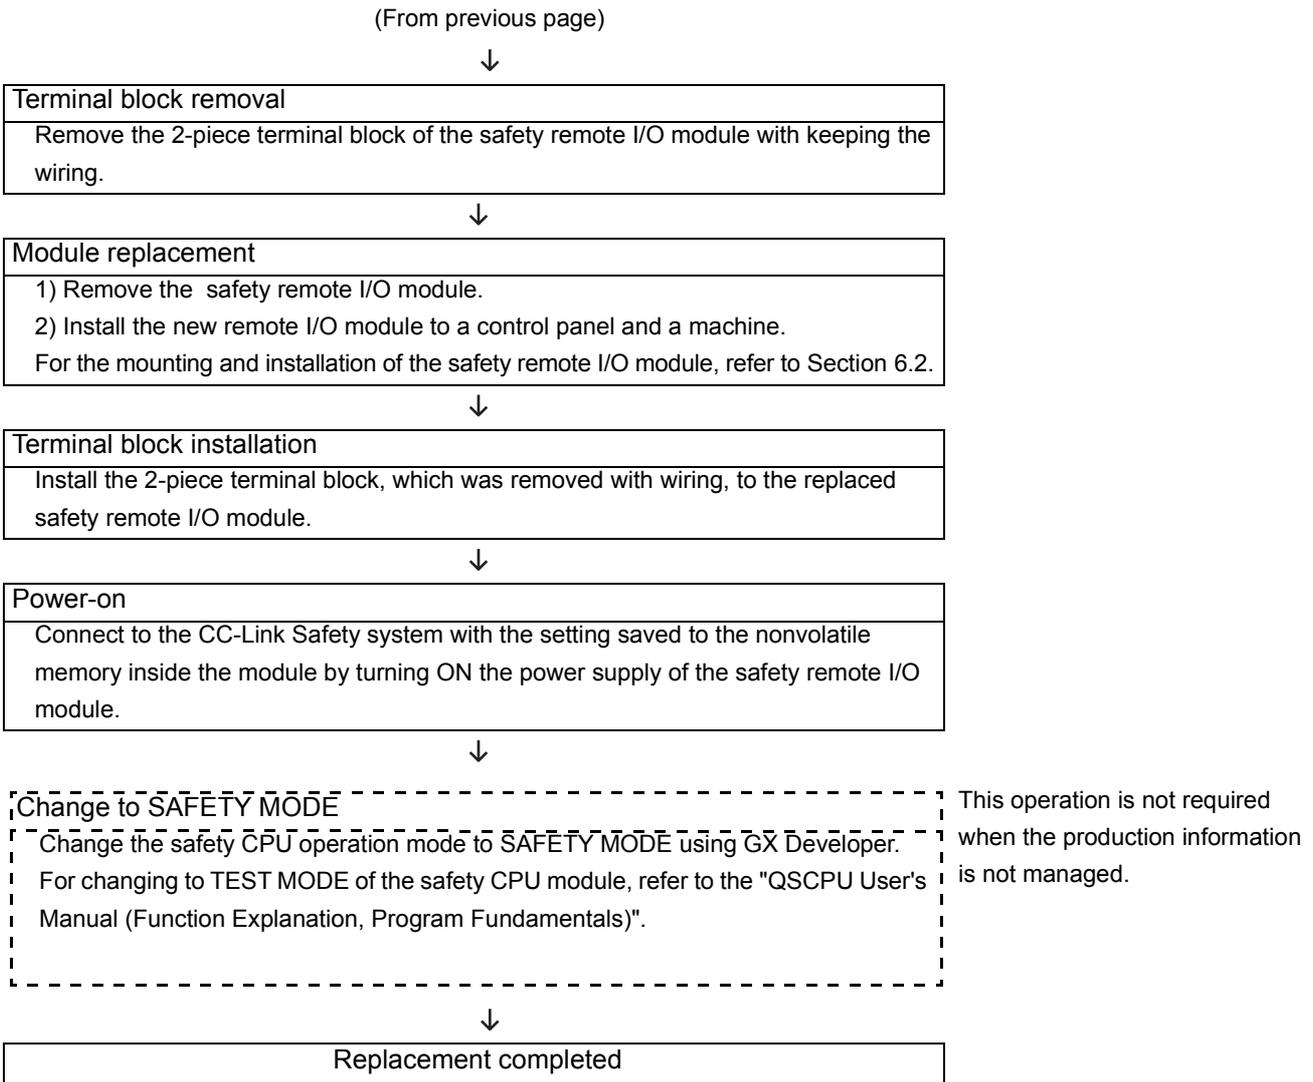

Figure 6.2 Replacement procedure of safety remote I/O module
Figure 6.2 shows the replacement procedure of the safety remote I/O module.
□ □ □ in Figure 6.2 indicates the operation for managing the production information.